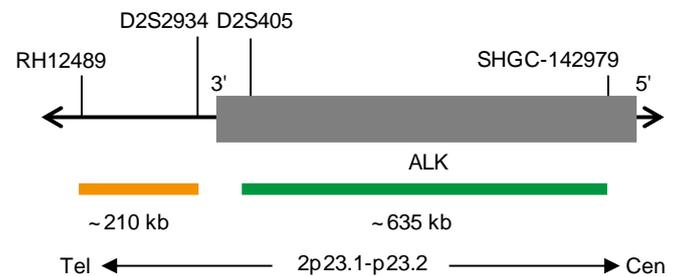
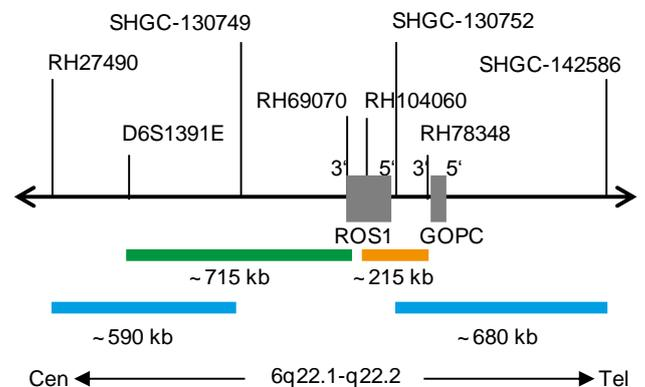

Fig. 1: ALK Probe map (not to scale)
Fig. 2: ROS1 Probe map (not to scale)
- ZyGreen (excitation 503 nm/emission 528 nm) labeled polynucleotides (~10.0 ng/ μ l), which target sequences mapping in 2p23.1-p23.2* (chr2:29,460,144-30,095,822) proximal to the ALK breakpoint region and in 6q22.1* (chr6:116,912,298-117,627,255) proximal to the ROS1 breakpoint region (see Fig. 1 & Fig. 2)
- ZyOrange (excitation 547 nm/emission at 572 nm) labeled polynucleotides (~2.5 ng/ μ l), which target sequences mapping in 2p23.2* (chr2:29,174,204-29,383,335) distal to the ALK breakpoint region and in 6q22.1* (chr6:117,659,135-117,871,701) distal to the ROS1 breakpoint region (see Fig. 1 & Fig. 2)
- ZyBlue (excitation 418 nm/emission 467 nm) labeled polynucleotides, (~70.0 ng/ μ l), which target sequences mapping in 6q22.1* (chr6:116,671,642-117,260,761) proximal to the ROS1 breakpoint region co-localizing with the green-labeled ROS1 polynucleotides and in 6q22.1-q22.2* (chr6:117,765,211-118,444,005) distal to the ROS1 breakpoint region co-localizing with the orange-labeled ROS1 polynucleotides (see Fig. 2)